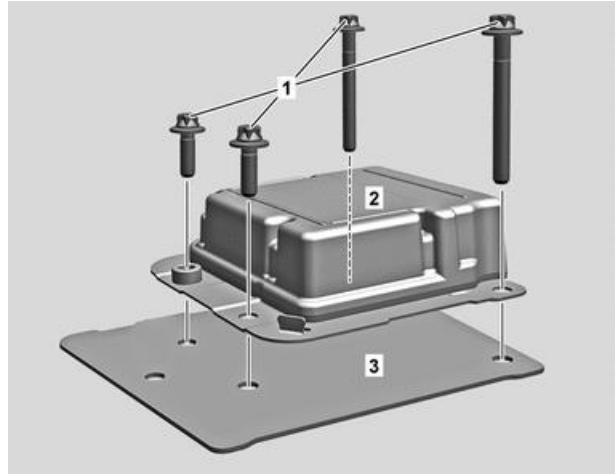

Figure 1
-  Retrofit SRS control module reinforcement plate/protective bracket (3, Figure 1): Align reinforcement plate/protective bracket (3) with threaded mounting bores of SRS control module (2) at control module's installed position.
-  Reinstall SRS control module (2, Figure 1) on top of reinforcement plate/protective bracket (3):